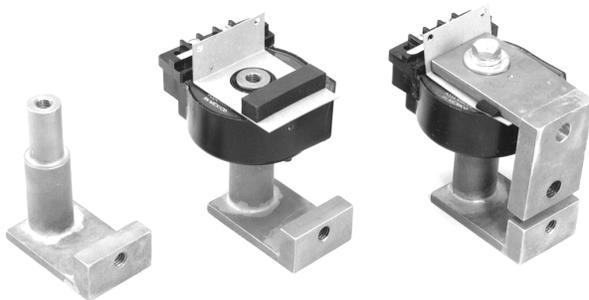

Figure 6. Assembling the CT and bus components.
1. Place the CT over the post on the bottom piece of the new bus. Place the insulated barrier in position on top of the CT, then place the top piece of the new bus in position, as shown in Figure 6. Place a $\frac{3}{8}$ -16 bolt with flat washer through the top bus and into the tapped hole in the post of the bottom bus. Leave the bolt finger tight for now.